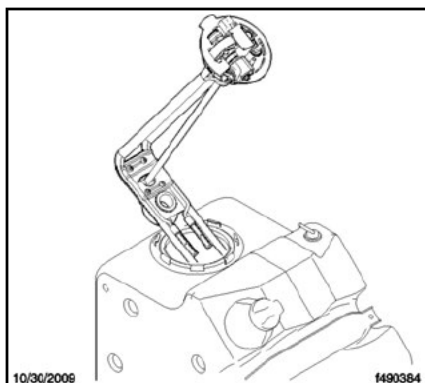

Fig. 5, Header Unit
15.2. Rotate it to pull the horizontal end clear of the tank. See Fig. 5.